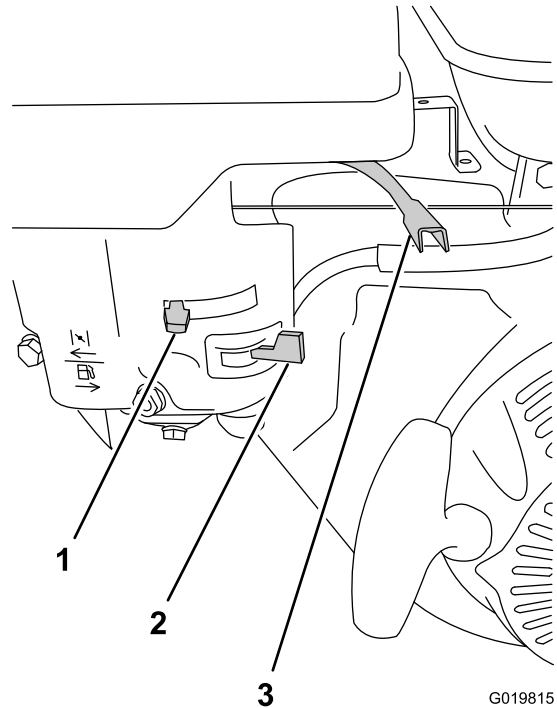

Figure 35
2. Move the fuel valve to the OPEN position, all the way to the right (Figure 35).
3. Move the choke lever to the ON position (Figure 35).
1. Move the throttle lever to the MIN position (Figure 35).